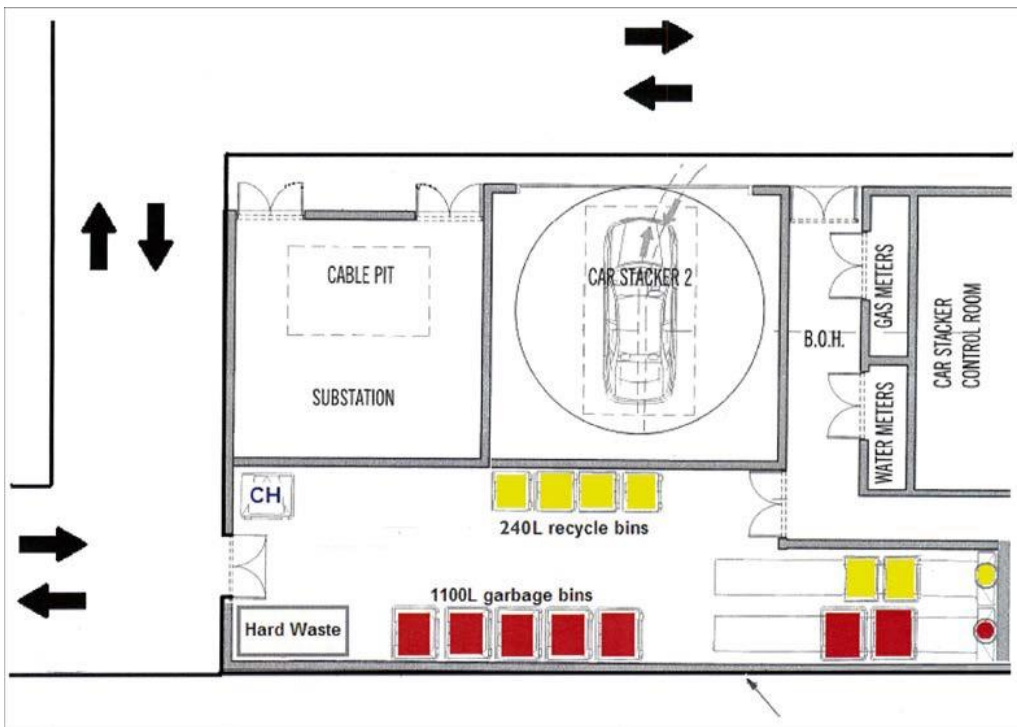

Figure 3 Example scaled waste management plan drawing of generic residential bin room.
- waste, recycling, and food waste bin numbers and sizes, colour coded per section 3 (figure 3)
- hard and green waste storage area (figure 3)
- charity skip / bin/s (figure 3)